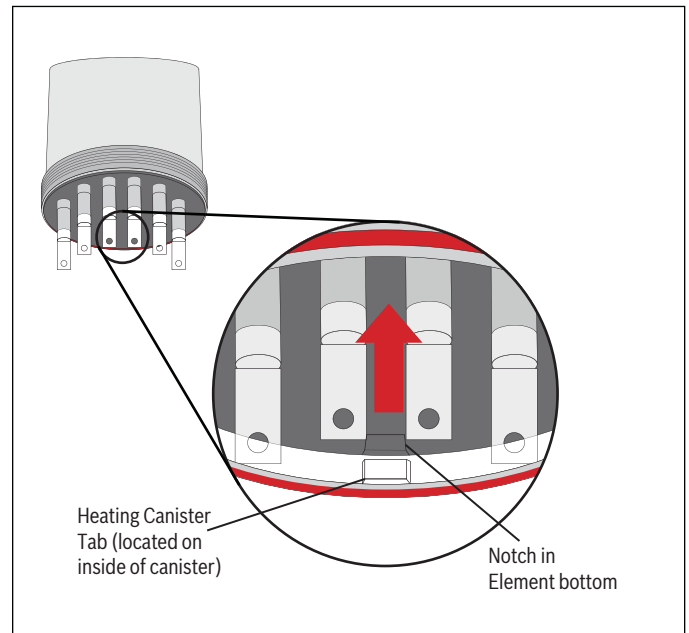

Figure 23
5. In order to remove the heating element, you must unlock it from the tab on the inside of the heating canister. Push the element bottom up slightly into the canister and then rotate to release it from the heating canister tab. See Figures 23 & 24.